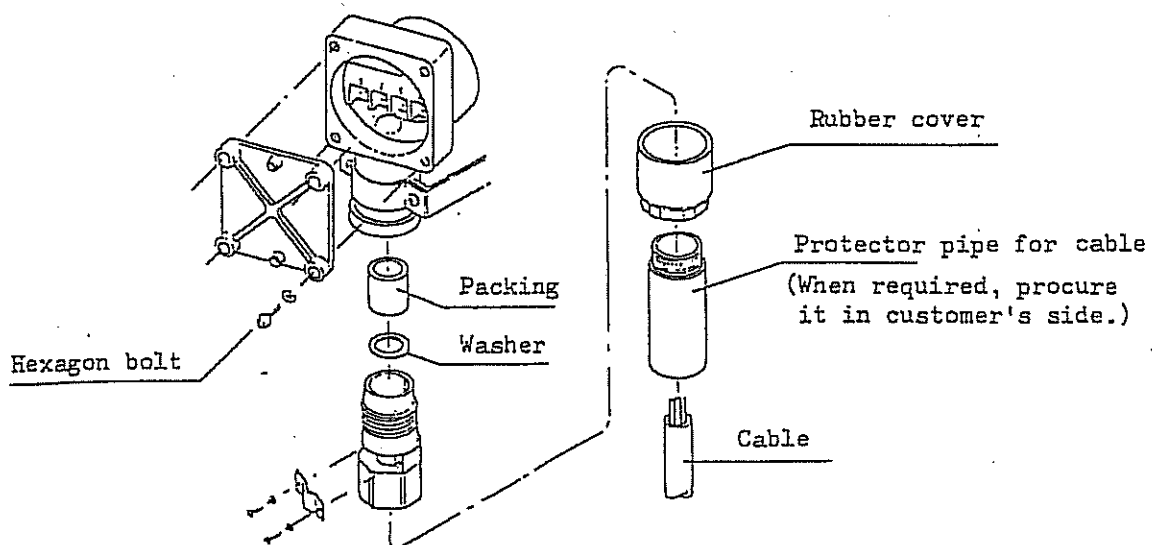

Fig. 2
- (2) Put the cable into the terminal box of the detector head after passing through the rubber cover, packing gland, washer and packing. Install the terminal lug for 4 mm screws to the end of cable (4 core). (Refer to fig. 2)